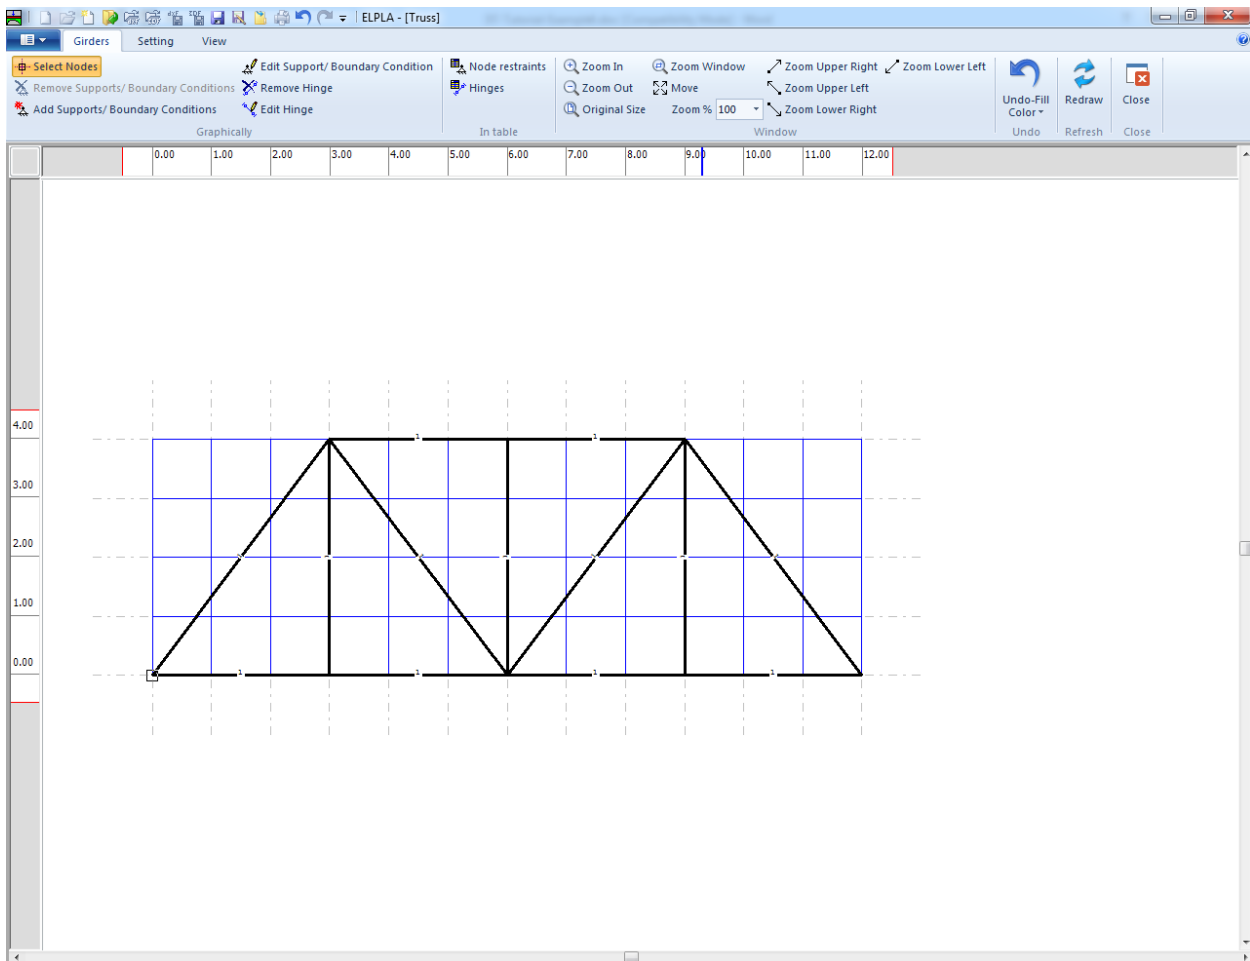
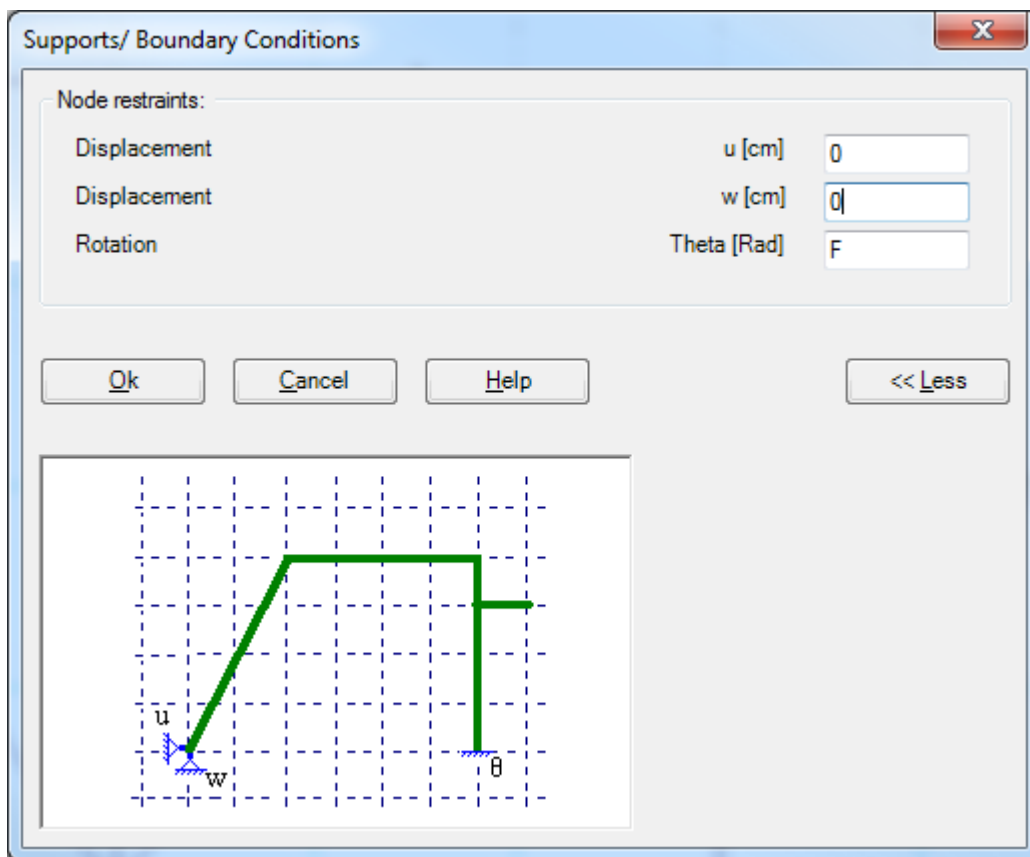

Figure 6.21 Selection of hinged support node
Figure 6.22 "Supports/ Boundary Conditions" dialog box
- Click the left mouse button on nodes that have hinged supports as shown in Figure 6.21
- Choose "Add Supports / Boundary Conditions" command from "Graphically" menu in Figure 6.21. "Supports/ Boundary Conditions" dialog box in Figure 6.22 appears